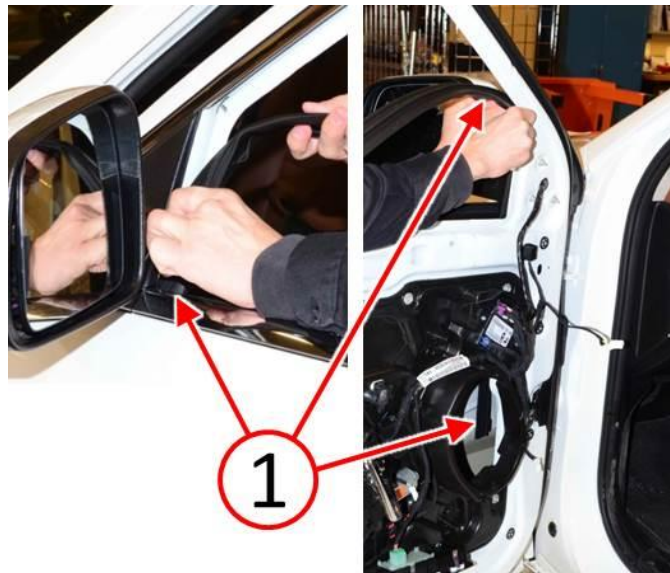

Fig. 7 Install Front Leg Of Door Glass Run Seal
5. Begin the NEW door glass run seal installation by inserting the seal front leg (1) onto the forward door glass run channel (Fig. 7).